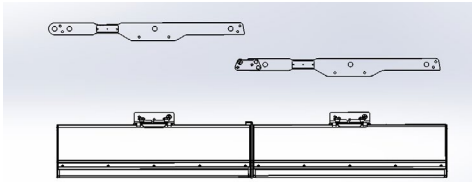

Figure 9 - Position Stingers on mounts
- Place stingers in place on the mounts (Figure 9)